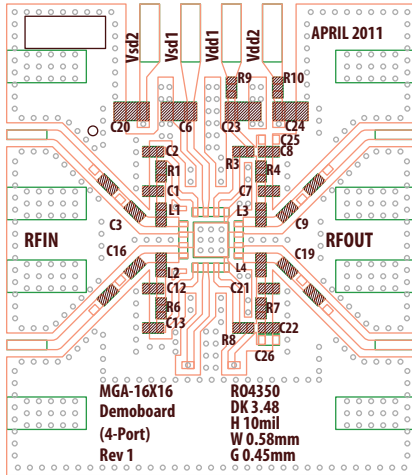
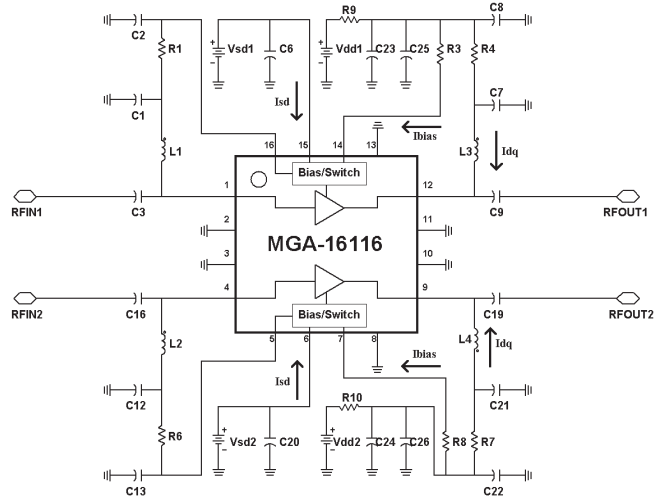

Figure 5. Demo Board Layout Diagram
Figure 6. Demo Board Schematic Diagram
4. Refer to Figure 6 for more details.
7. Bias to each LNA is adjustable using R3 and R8 (see Figure 6). Increasing R3 and R8 will reduce bias current (Idd) and vice-versa.
RF performance at $T_A = 25^\circ\text{C}$, $V_{dd} = 4.8\text{ V}$, $I_{dd} = 60\text{ mA}$. Measurements made on single-ended amplifier in LNA mode tuned to 900 MHz, using Figure 5 demoboard and Figure 6 circuit. Signal = CW unless stated otherwise. IIP3 test condition: FRF1-FRF2 = 1 MHz with input power of -20 dBm per tone.
2. Rbias is R3 and R8 from Figure 6.